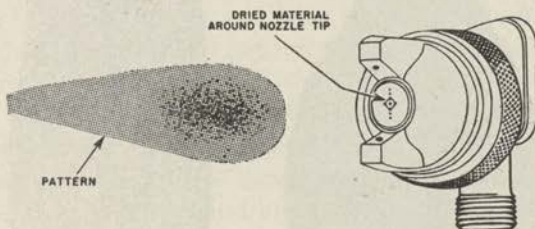

FIGURE 125.—Distorted pattern due to clogged center air opening or loose air nozzle.
(1) Dried material around the outside of the material nozzle tip restricts the passage of air at one point through the center opening of the air nozzle and results in the pattern shown in figure 125. To remedy this condition, remove the air nozzle and wipe off the ma-